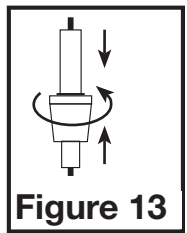

Figure 13
- Follow the steps in **SECTION 5** *Wiring* to gain access to the fuse holder located inside the wire compartment. To replace the fuse, squeeze the top and bottom of the fuse holder together while twisting the larger piece in a direction away from the tabs (**Figure 13**). Replace fuse only with 0.5 Amp, 250VAC, 5 x 20mm, Fast Acting fuse. Reconnect the fuse holder by lining up the top and bottom section and squeeze together while twisting until they are locked in place. Carefully tuck back into the wire compartment and reinstall the wire compartment cover.